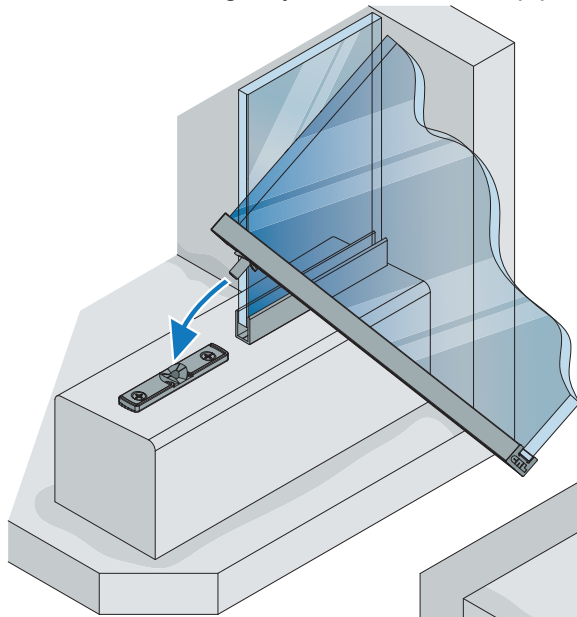

Figure 18
1. Insert the Door Pivot through the Pivot Base Plate. **It is important that the door must be set in place before the silicone sealant cures.** (Figure 18)